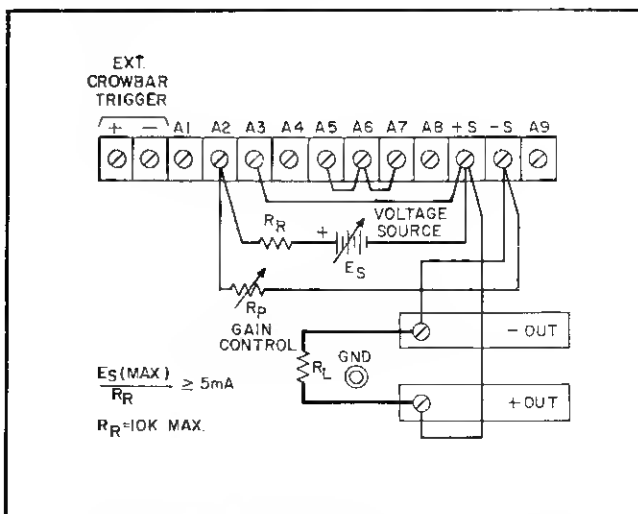

Figure 3-6. Voltage Programming of Output Voltage (Variable Gain)
**3-42 Constant Voltage Output, Voltage Input (Variable Gain).** In the remote programming arrangement shown in Figure 3-6, the series combination of external voltage source  $E_S$  and reference resistor  $R_R$  replaces the supply's internal voltage programming current source. As a result, the voltage this external current source develops across gain control  $R_P$  becomes the output voltage of the supply, and the gain relationship between  $E_S$  and the output voltage equals the resistance ratio  $R_P/R_R$ .